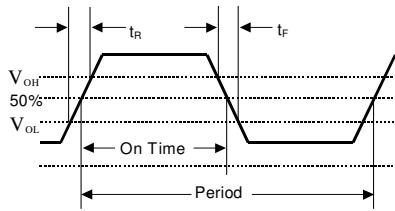
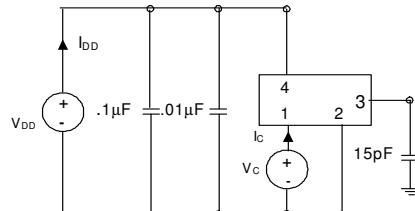

Figure 3: Output Waveform
Figure 4: Typical Output Test Conditions (25±5 °C)
2. Parameter is defined in Figure 3 and tested as shown in Figure 4. For $f_O > 90\text{MHz}$, rise and fall time is measured 20 to 80%.
3. Symmetry is defined as On Time/Period (Figure 3).